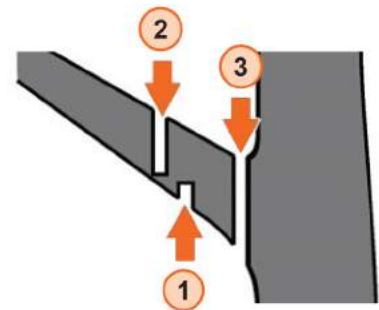

Figure 15
- Start at bottom of the trunk and work upwards (see Figure 15).
- 4-6 inches (10-15 cm) from the base of the branch saw upwards into the branch 1/3 of the branch diameter ①.
- A little further up the branch saw through the branch from top to bottom ②.
- Make a cut close to the trunk ③. Make the cut from top to bottom.